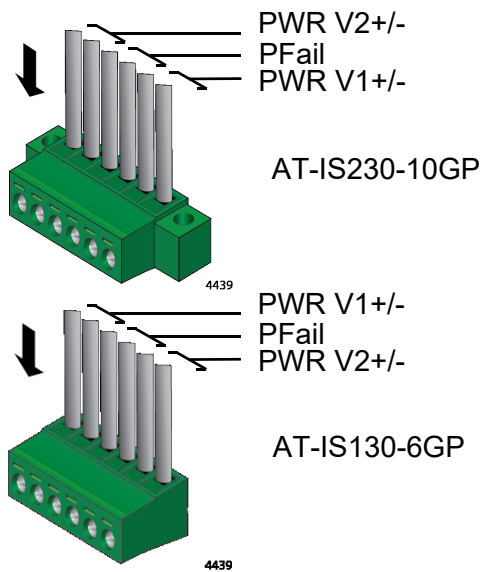

Figure 40. Insert Power Supply and Alarm Wires into Power/Alarm Connector
6. Insert the power wires into the wiring slots for V1+ and V1- for the first power supply. If you are installing the wires for a second power supply, insert them into wiring slots V2+ and v2-. Insert the two alarm wires in the two middle wiring slots - pins 3 and 4. There is no polarity for the alarm wires. Refer to Figure 40.